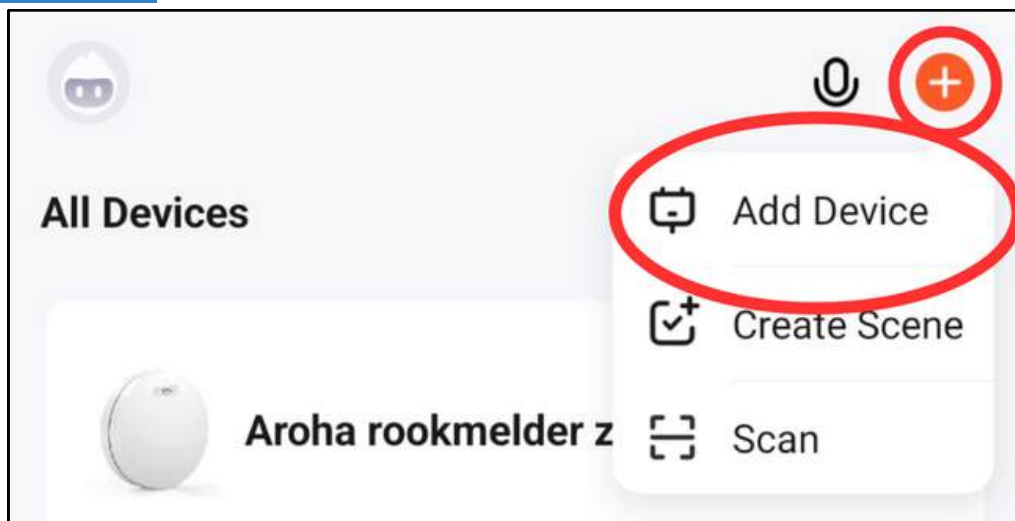

Figure 1: Add Device in app
5. Click on the "+" in the top right corner of the app home screen. Then choose "**Add device**", as you see in Figure 1. The app will now automatically look for devices that are in pairing mode. Follow the steps as described in the app.